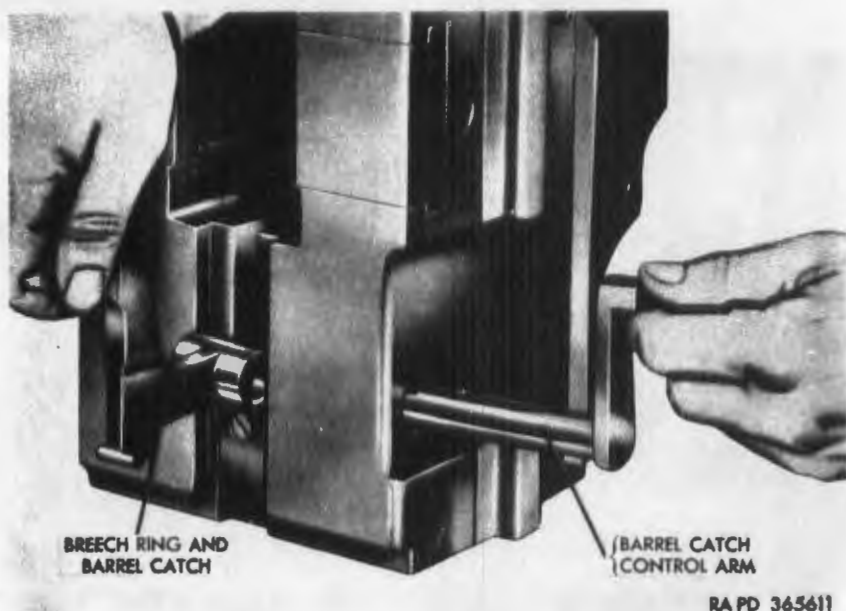
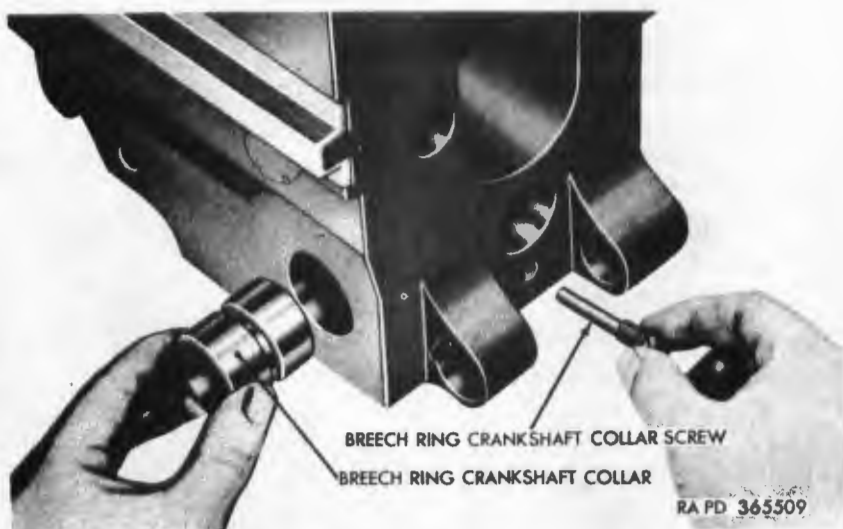
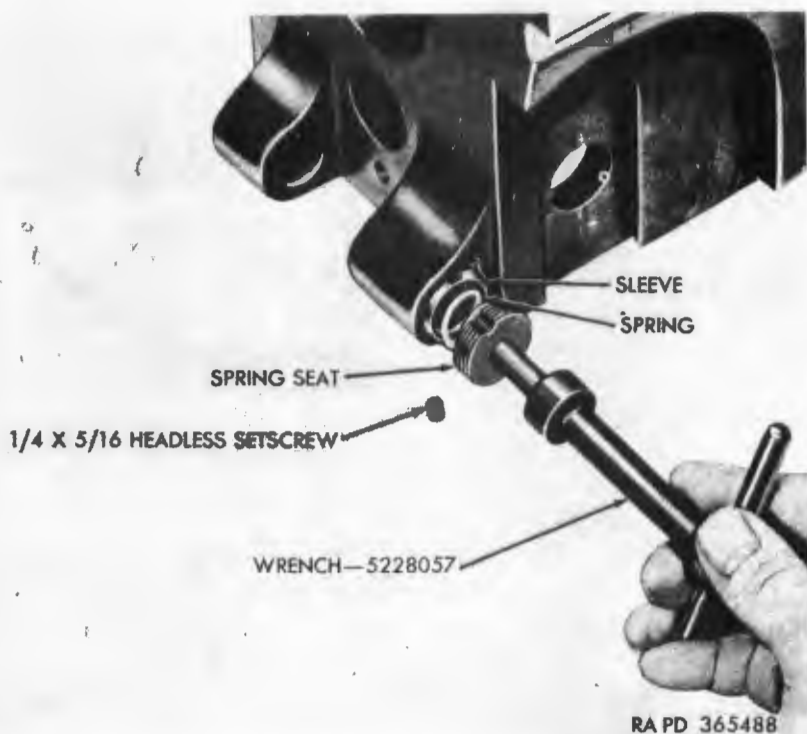

Figure 342. Removing or installing breech ring and barrel catch.
Figure 343. Removing or installing breech ring crankshaft collar and screw.
Figure 344. Removing or installing tray to breech ring bolt spring and seat.
- (3) Remove extractor arm and extractors from breech ring. The extractor arm has an integral key which necessitates rotating the arm so that the lug may pass through the keyway cut in the breech ring.
- (4) Raise breech ring and barrel catch (fig. 342) until its shank is at right angles to the top surfaces of breech ring.
- (5) Withdraw barrel catch control arm (fig. 342). In doing this, key on shaft of arm must be mated with keyway in breech ring.
- (6) Remove catch.
- (7) Unscrew and withdraw breech ring crankshaft collar screw (fig. 343).
- (8) Slide breech ring crankshaft collar out of breech ring.
- (9) Remove headless setscrew (fig. 344) from edge of breech ring bolt spring seat.
- (10) Unscrew seat, using wrench 5228057 (fig. 344).
- (11) Remove breech ring bolt spring and sleeve (fig. 344).
- (1) Install breech ring abutment (L) in breech ring and secure with $\frac{1}{4}$ x $\frac{5}{8}$ flat-head screw (K).
- (2) Install tray to breech ring bolt sleeve (M) (closed end first) into its seat in lug; install spring (N) and seat (P). Tighten seat using wrench 5228057 (fig. 344). Secure seat by installing $\frac{1}{4}$ x $\frac{5}{16}$ headless setscrew (Q).
- (3) Slide breech ring crank shaft collar (E), into shaft hole in breech ring until groove on collar aligns with hole for breech ring crank shaft collar screw (S). Install screw ($\frac{8}{16}$ x $1\frac{3}{8}$) (S), making sure that it engages groove in collar.
- (4) Align key and keyway and place breech ring and barrel catch (J) in recess in top of breech ring, holding barrel catch at right angles to top surface of breech ring. Insert shaft of breech ring and barrel catch control arm (H) into breech ring and through barrel catch (fig. 342).